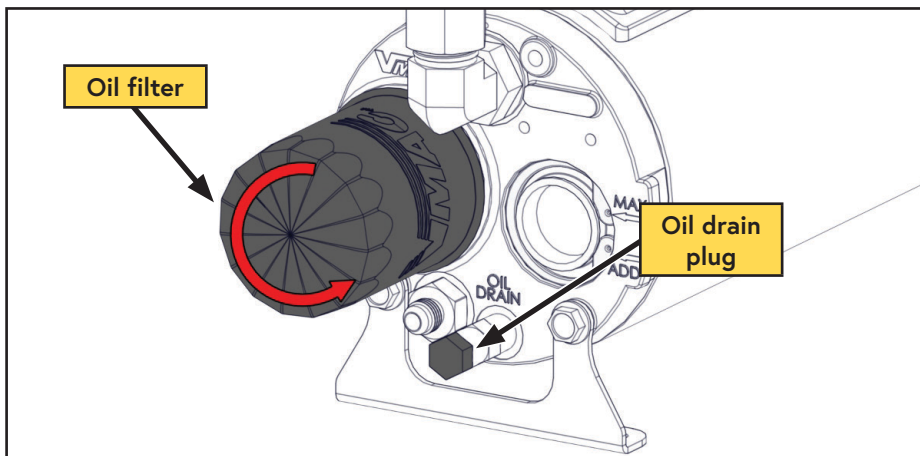

Figure 27 — Compressor oil filter
- Remove the oil drain plug and drain the oil into a container with a capacity of at least 4 L (1 USG) (Figure 27).
- Remove the oil filter (Figure 27).